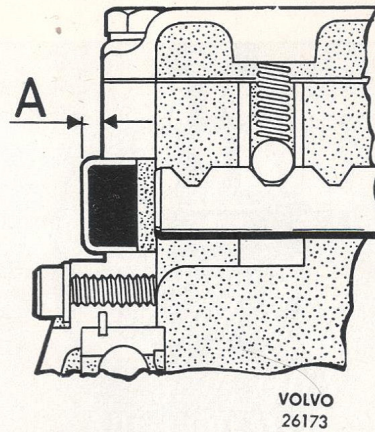

Fig. 38. Fitting end cap over selector rail
N.B. If the end caps at the front end of the housing have been removed, these should be fitted in the same way as previously, i.e. the centre end cap should project about 4 mm (0.16") outside the face of the housing, see Fig. 38.